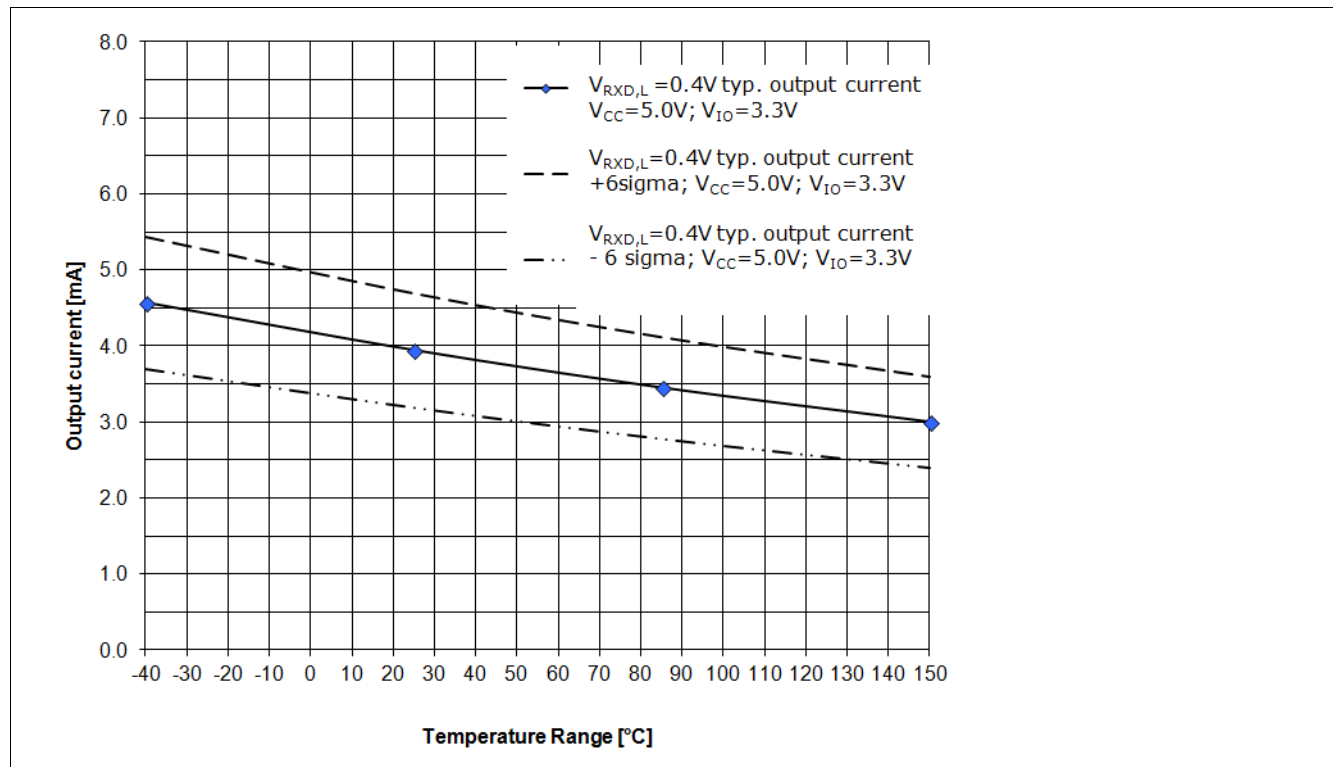

Figure 14 RxD Output driver capability for a logical “Low” signal $V_{RxD,H}=0.4\text{ V}$, $V_{CC}=5.0\text{ V}$, $V_{IO}=3.3\text{ V}^1)$
The diagram in Figure 13 and the diagram in Figure 14 show the current capability of the RxD output pin depended on the chip temperature T_J . Figure 13 shows the current capability of the RxD output pin at a V_{IO} power supply of 5.0 V and Figure 14 shows the current capability of the RxD output pin at a V_{IO} power supply of 3.3 V.
- The curve “VRxD,H = 0.4 V; **typ. output current**; VCC = 5.0 V; VIO = 3.3 V;” displays the typical output current at the RxD output pin of the TLE8250GVIO (see Figure 14).
- The curve “VRxD,H = 0.4 V; **typ. output current + 6 sigma**; VCC = 5.0 V; VIO = 3.3 V;” displays the expected maximum value of the output current at the RxD output pin (see Figure 14).
- The curve “VRxD,H = 0.4 V; **typ. output current - 6 sigma**; VCC = 5.0 V; VIO = 3.3 V;” displays the expected minimum value of the output current at the RxD output pin (see Figure 14).